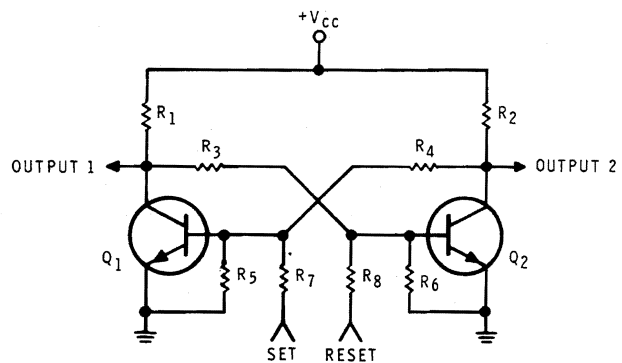

Figure 6-82
11. Refer to Figure 6-82.  $Q_2$  is saturated, placing a logic 0 at output 2. This means that  $Q_1$  is off placing a logic 1 at output 1. In order to change the state of the circuit place: